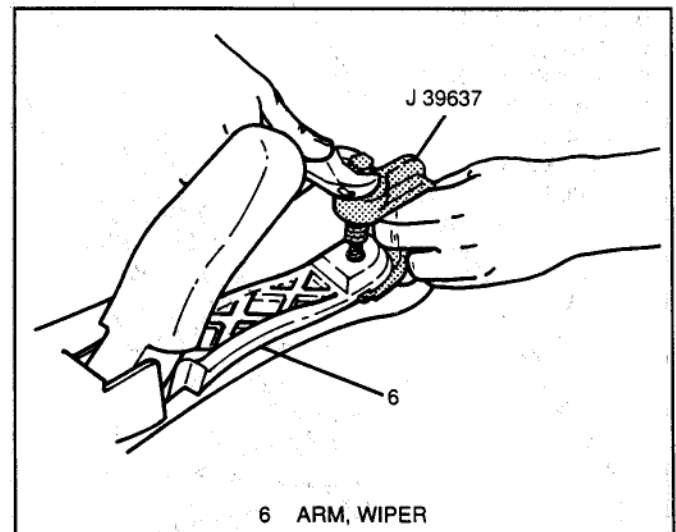

Figure 10 – Wiper Arm Removal
4. Wiper arm (6, Figure 10) from linkage drive shaft using J 39637.